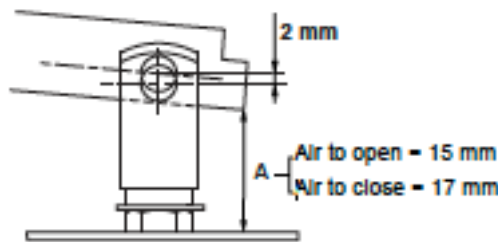

Figure 16 - Adjusting the lever (113)
- B. Fit lever (113) with spring clamp (115) positioning hole facing upwards, fit pin (105) into hole A, then fit pin (18) into clevis (104a). Note: All pins should be greased slightly before fitting.
- C. Press the lever on the actuator side to check for plug/seat ring leaks at ΔP 3.5 barg (50 psig). If the valve is equipped with a handwheel, lever (113) should not touch lever arm stop (122). If the valve leaks, release the pressure at the inlet and remove pin (18) of clevis (104a), then loosen nut (103). Loosen the plug stem in order to move the clevis up (104a). A complete turn moves the position up by 1 mm. Then tighten the locknut (103) again.
- D. Check that the distance between clevis (104b) pin and the hole in lever (113) is approximately 2 mm. If necessary, adjust the position of clevis (104a) to obtain this distance, see figure 16. This value provides the initial compression of actuator spring (134).
- E. Admit enough air pressure to the actuator to drive piston clevis (104b) upwards. Couple the clevis to lever (113) using pin (124).
- F. Release the actuator pressure and repeat the plug/seat ring leak test at ΔP 3.5 barg (50 psig). Dimension A should be the same as in figure 16. Release the valve pressure once this step is completed.